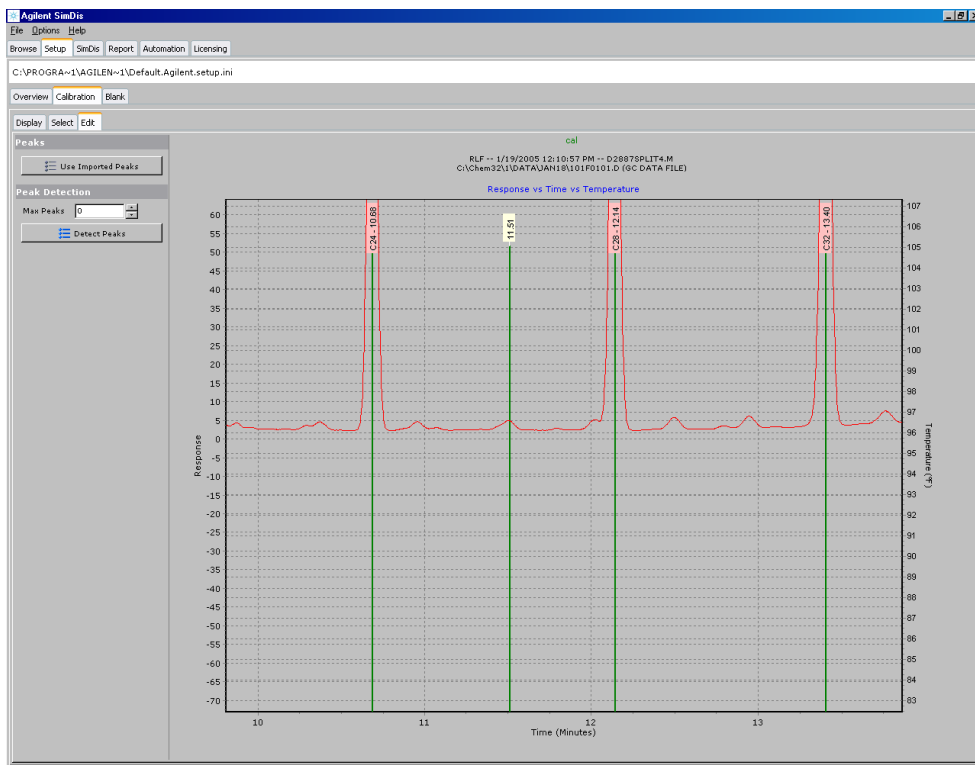

Figure 15 Manually added peak now included
- 3 A green line and retention time label (approximately 11.5 minutes in this example) appear to confirm manual recognition (Figure 15).